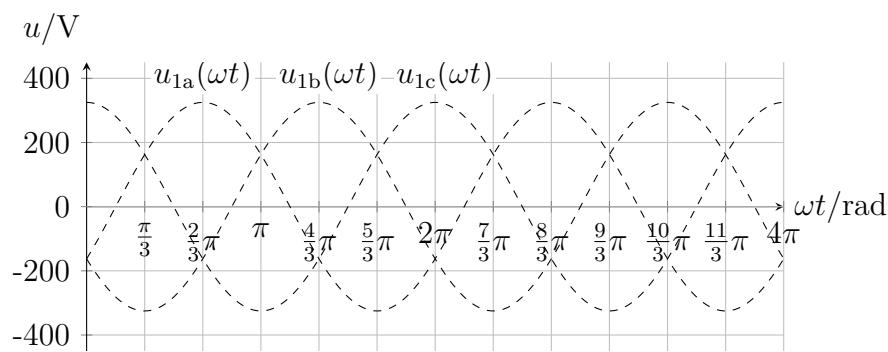

Figure 5: Output voltage $u_2(t)$ for $\alpha = \frac{\pi}{3}$.
3.1 Draw the output voltage signal $u_2(t)$ for the control angle $\alpha = \frac{\pi}{3}$ into Fig. 5. [2 Points]